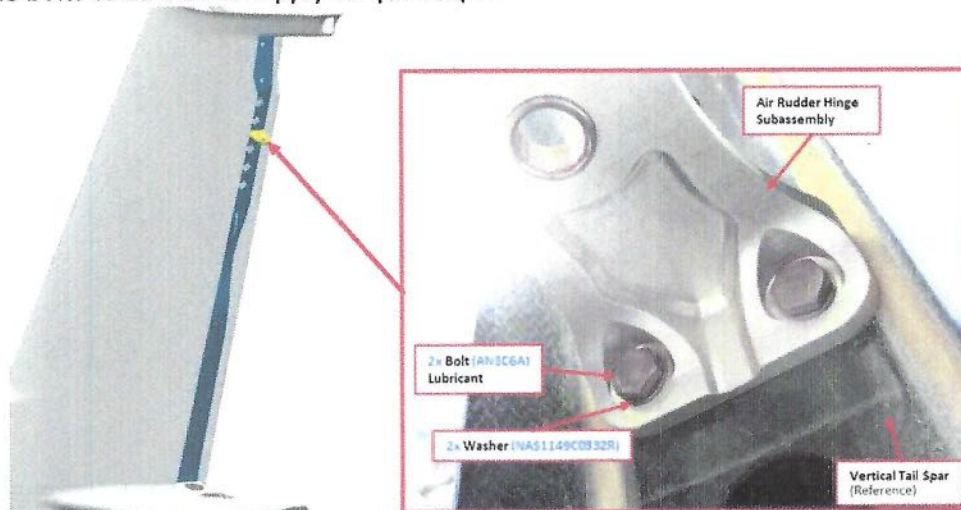

Figure 3
- CM 5. Wet install upper air rudder hinge subassembly onto vertical tail spar using lubricant with 2x bolts (AN3C6A) and 2x washers (NAS1149C0332R), see Figure 3.
- Upper air rudder pivot hinge and hardware (do not get inhibitor on pivot bearing), see Figure 3,